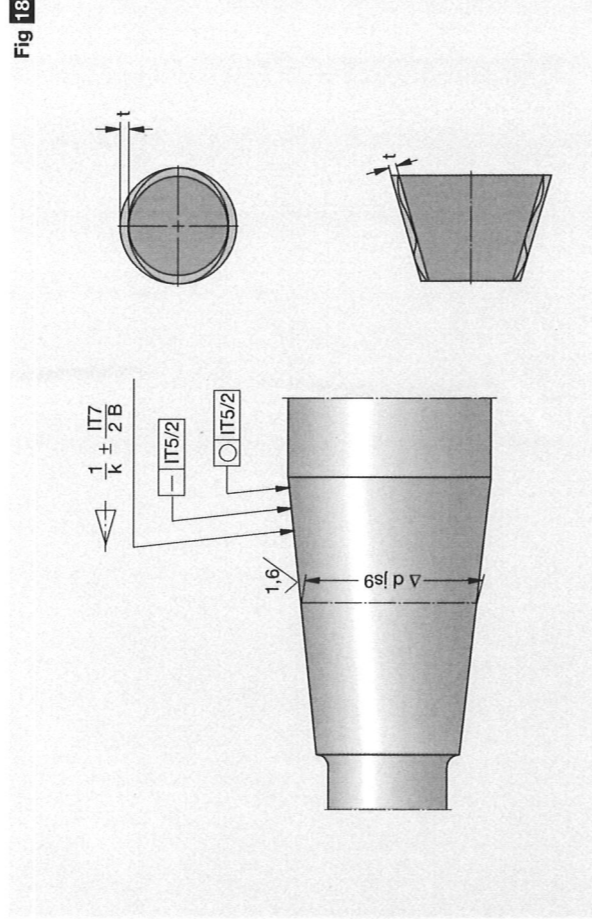

Fig 13
When a bearing is mounted directly onto a tapered shaft seating, the seating diameter tolerance can be wider than in the case of cylindrical seatings. Fig 13 shows a grade 9 diameter tolerance, while the form tolerance stipulations are the same as for a cylindrical shaft seating. SKF recommendations for tapered shaft seatings for rolling bearings are as follows.
- The permissible taper deviation for machining the taper seatings is \pm tolerance in accordance with IT7/2 based on the bearing width. The value is determined according to the formula shown in fig 13, where